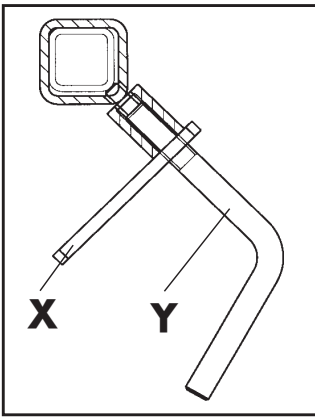

Fig. 3-11
- When fixing the swath cloth, ensure that there is no play. Tighten toggle screw "Y" by simultaneously swivelling the swath sheet and lock it with yoke "X" (fig. 3-11).